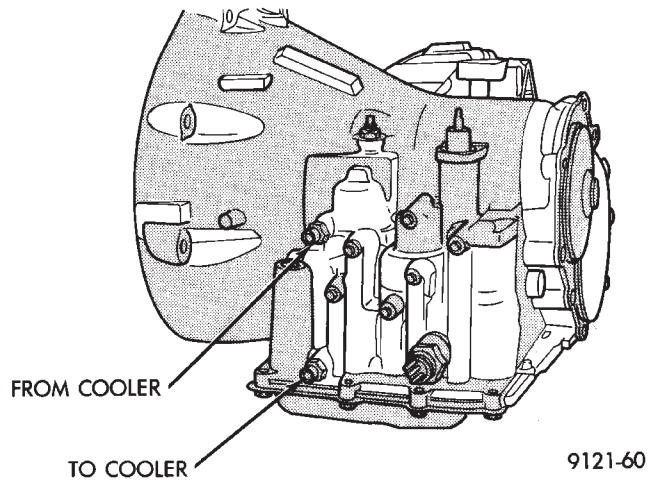

Fig. 1 Cooler Line Identification
(1) Disconnect the cooler lines at the transmission.
(2) Using a hand suction gun filled with mineral spirits, reverse flush the cooler by forcing mineral spirits into the **From Cooler** line of the cooler (Fig. 1). Catch the exiting spirits from the **To Cooler** line.